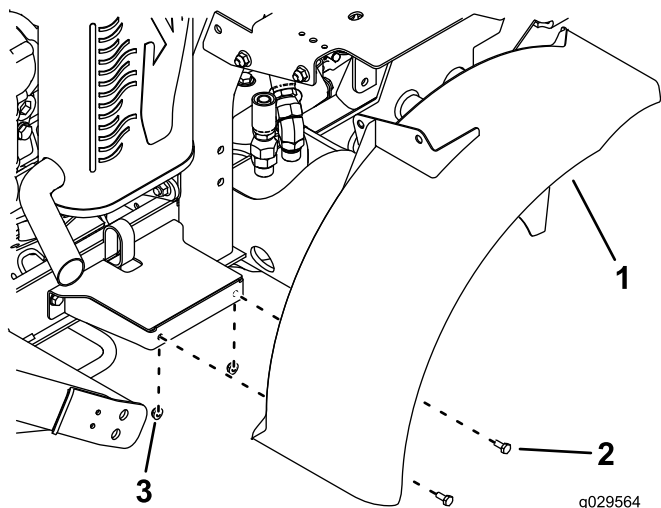

Figure 7
11. Loosely mount the side of the right fender to the fender mount with 2 bolts (1/4 x 5/8 inch) and 2 nuts (1/4 inch) as shown in Figure 7.
12. Loosely mount the bracket, on the top of the fender, to the fuel tank bracket with 2 bolts (3/8 x 3/4 inch) and 2 flange nuts (3/8 inch) as shown in Figure 7.